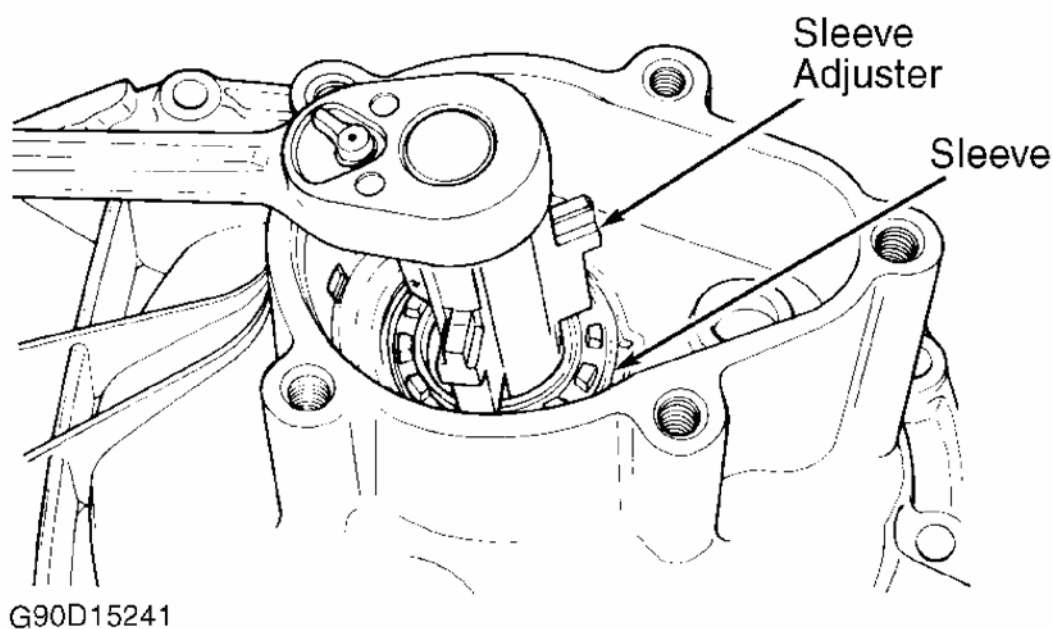

Fig. 10: Removing Bearing Using Sleeve Adjuster
5. On all models, use Sleeve Adjuster (J-36599) to rotate sleeve, and push side bearings out of bores (right side only on K3). On K3 left side bearing, remove adjuster plug, bearing and "O" ring from left side of carrier by rotating adjuster plug using Adjuster Plug Remover (J-36615). See **Fig. 10** .